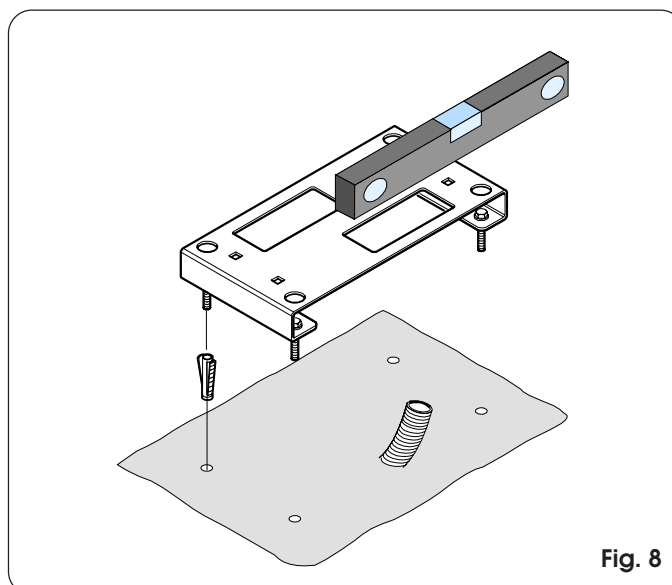

Fig. 8
- 2) Secure the foundation plate to the floor, using adequate expansion plugs (Fig. 8) and provide one or more sheaths for routing the electric cables through the plate (Figs. 6-7 Ref. ①). Using a spirit level, check if the plate is perfectly horizontal.